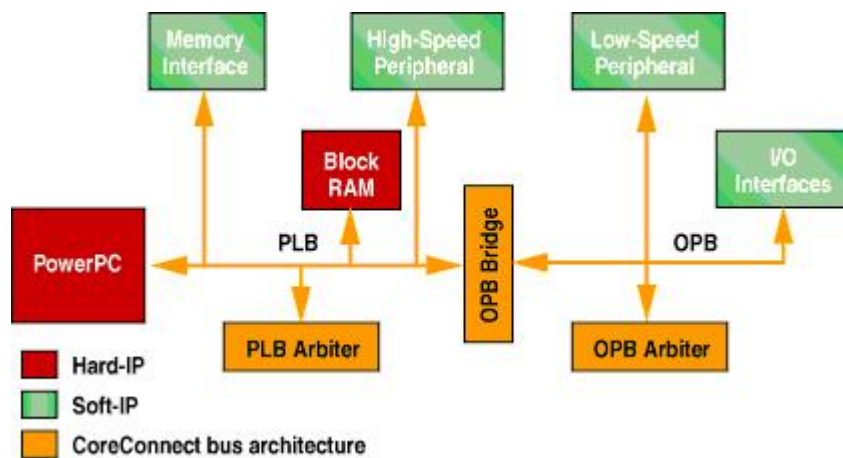

Figure 1. IP Cores Connected to CoreConnect
An Xilinx partnership with IBM introduces support for the hard-core PPC405, a robust busing standard and a device fabrication process. Xilinx offers a wide variety of intellectual property (IP) cores for the Virtex-II Pro FPGA, which are predefined hardware blocks that directly snap into IBM's CoreConnect bus technology (Figure 1).